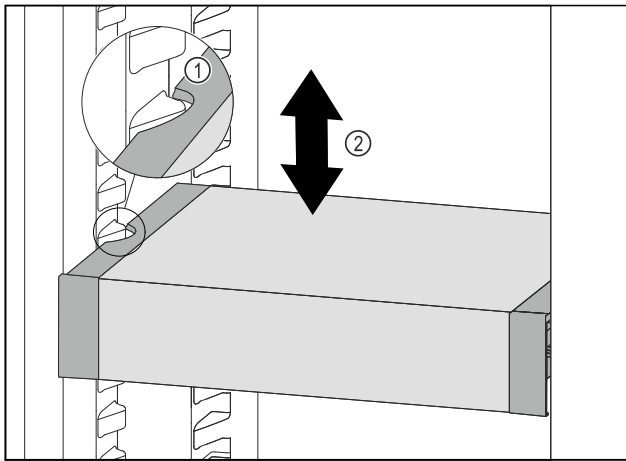

Fig. 129
- ▶ Pull VarioSafe forwards until the recesses in the side of the VarioSafe are at the level of the support rib in the refrigerator compartment. Fig. 129 (1)
- ▶ Move VarioSafe up or down in the refrigerator compartment until the desired height is reached. Fig. 129 (2)